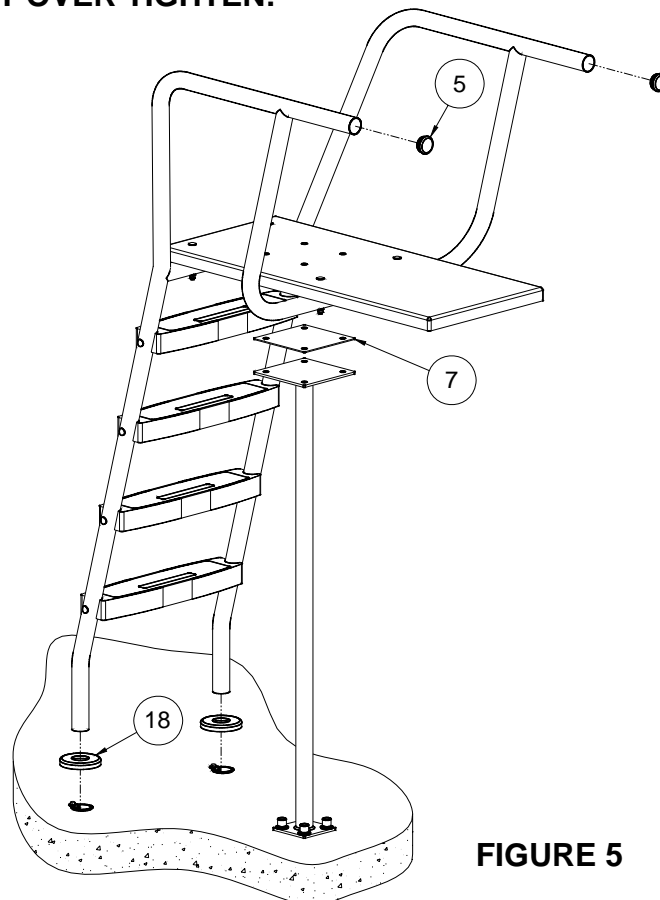

FIGURE 5
4. Slide **Escutcheons (item 18)** over frame lower tubes and place frame and footboard assembly into anchor sockets as shown in **FIGURE 5**. Place **Gasket (item 7)** on top of **Ultra Modern Lifeguard Column (item 3)**. **Footboard (item 2)** should rest on Gasket and holes from each should align. Tighten anchor socket wedge bolts. **DO NOT OVER TIGHTEN!**